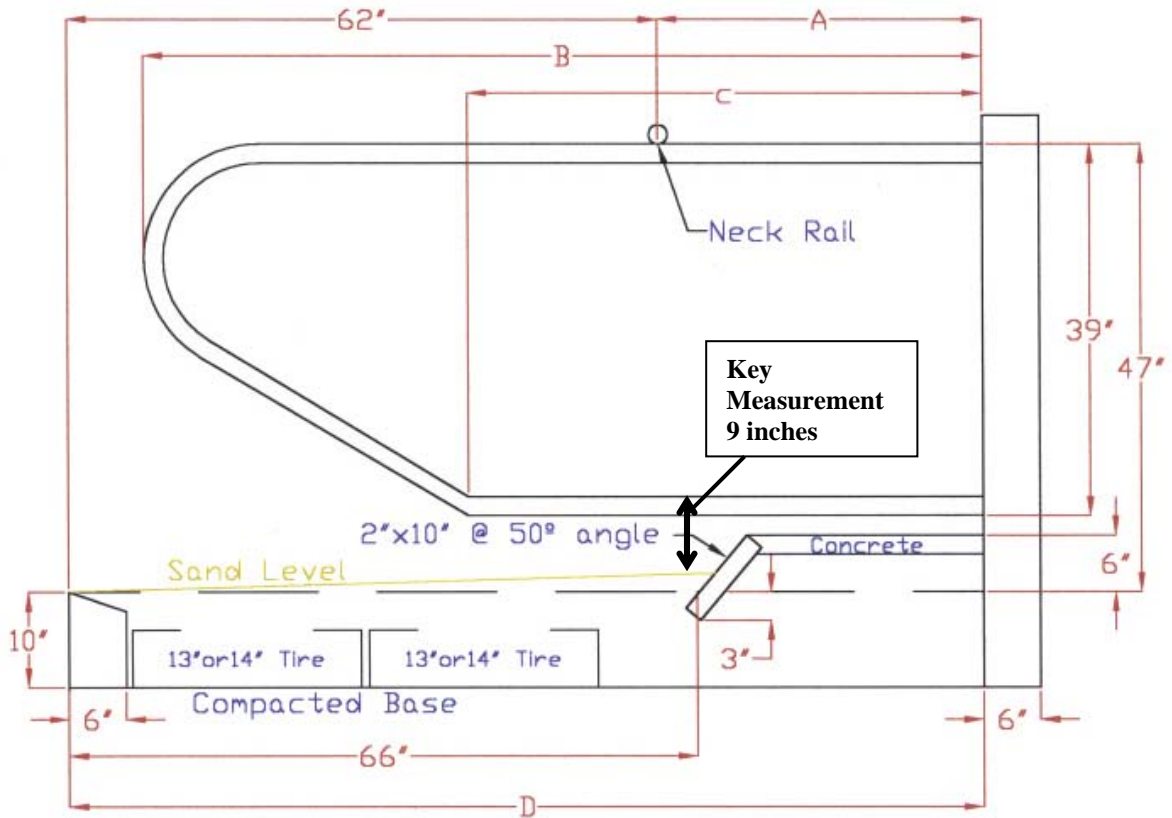

Figure 5B: Proper Brisket Board Location
1. Every free stall should have a brisket board. The brisket board helps position the cow properly in the stall and assists the cow to get up with less effort. I think the brisket board is one of the most important parts of a free stall. To properly install a brisket board, the distance from the back of the curb to the center of the brisket board is 66 inches. There is absolutely no reason to make it longer and in fact, usually makes things worse. I would recommend a 2X8 or 2X10 for the brisket board. Approximately 45% of the board should be above the bedding line and 55% below. **The most common mistake** is mounting the brisket boards too high. The board should be at a 50-60 degree angle. (See figure 5B)